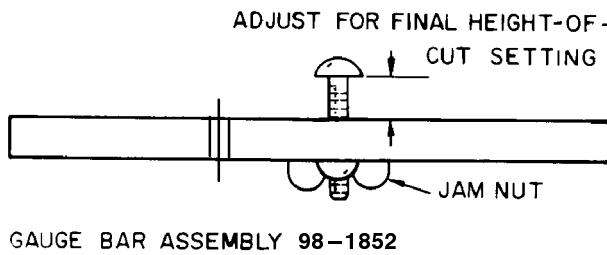
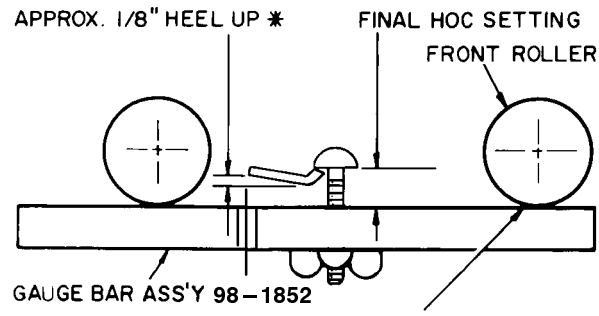

Figure 18
Figure 19
3. Loosen the gauge bar jam nut and adjust the first screw to set dimension between underside of screw head and gauge bar for desired height-of-cut. (Fig. 18). Tighten the jam nut to secure the adjustment. Hook screw head over cutting edge of bedknife and position bar against bottom of front roller (Fig. 19).
4. Loosen front roller nuts and adjust both ends of the front roller until it contacts gauge bar at both ends. With the gauge bar held firmly against the bottom of the rollers, adjust the front roller so the screw head just slips over the lip of the bedknife (Fig. 19). Tighten the front roller nuts.